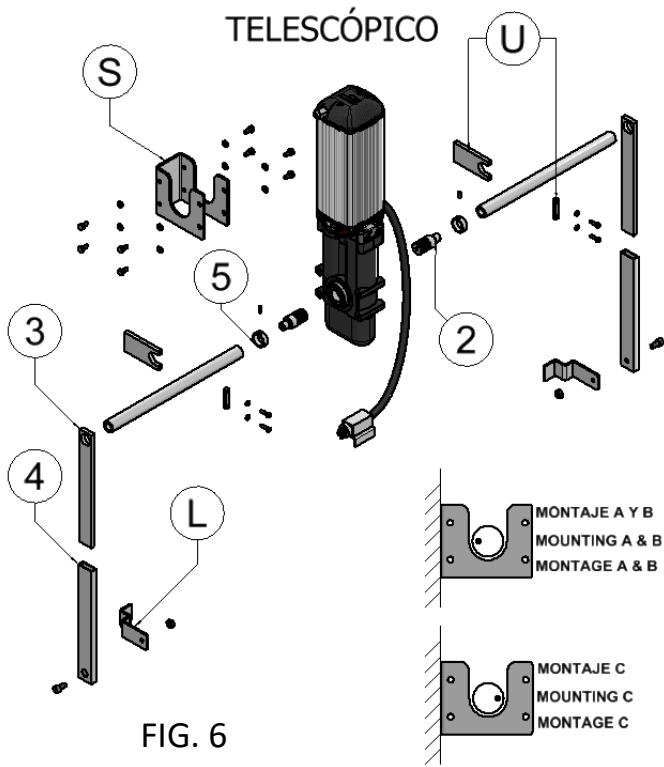

FIG. 6
### Fitting Figure 6
1. Fix the motor bracket "S" in figure 6 on the door leaf, in the position shown in figures 2, 3, 4 or 5, depending on the type of installation.
3. Insert part "2" in figure 6 10mm into a transmission rod of external diameter 28 and weld. This transmission rod is not included with the fitting (The drive rod is recommended to be a 4 or 5 mm thickness pressure tube).
4. Position the "U" piece in figure 6 as shown in figure 2, 3 or 4 so that the drive rods are completely aligned with the centre of rotation of the unit.
5. Fix the brackets "L" of figure 6 as shown in figures 2, 3 or 4 depending on the type of assembly.
6. Mount parts "4" of figure 6 to the bracket "L" of figure 6 and insert part "3" of figure 6 into this tube.
7. Insert the transmission rods welded to part "2" through the hole in part "3" of figure 6. Mount the transmission rods in the unit and fix them by the parts "U".
8. The point marked on the right pivot axis of the 2RU\* unit must be as shown in figure 6 according to the type of assembly. Before welding parts "3" to the drive rods, turn the shaft of the unit about 5° away from the stop position. Fit the travel stops (markings "5" figure 6). With the door completely closed, proceed with welding.
1. Repeat steps 1 and 2 of the fitting installation, fig. 6.